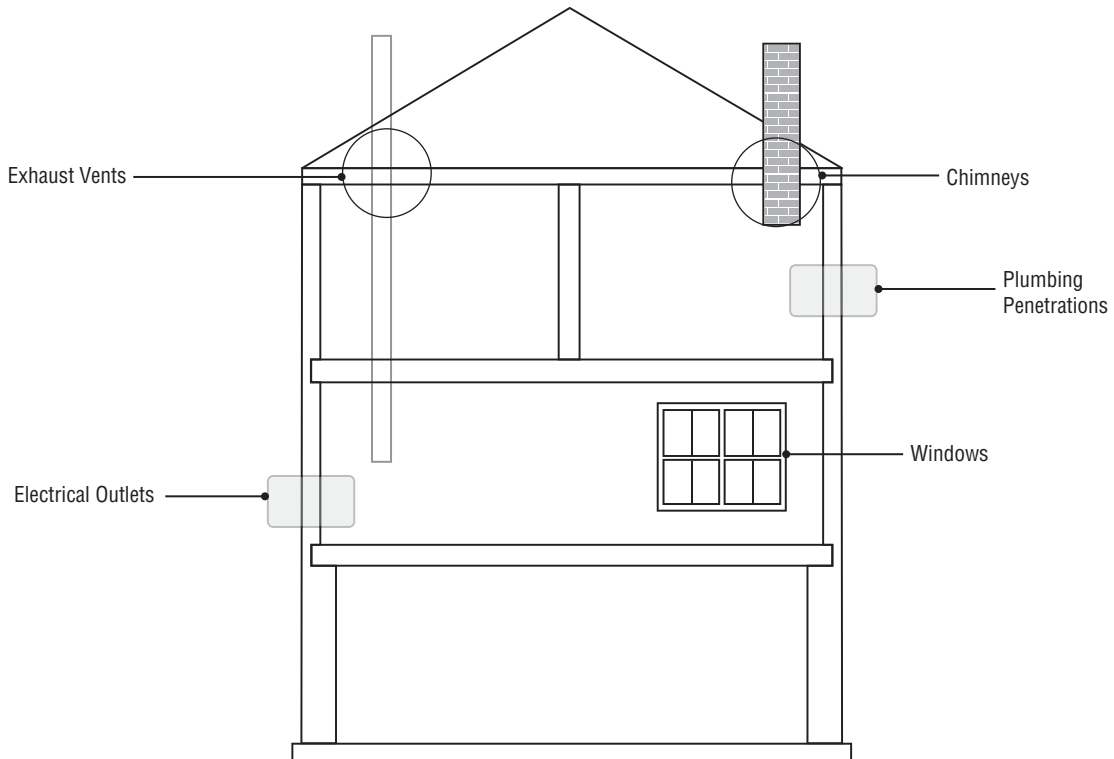

Figure 6: Building envelope penetrations.
Penetrations – Figures 6 through 11
- Building envelope penetrations include windows, doors, dryer vents, bathroom exhaust fans, electrical outlets, gas lines, plumbing, etc. (See Figure 6.)